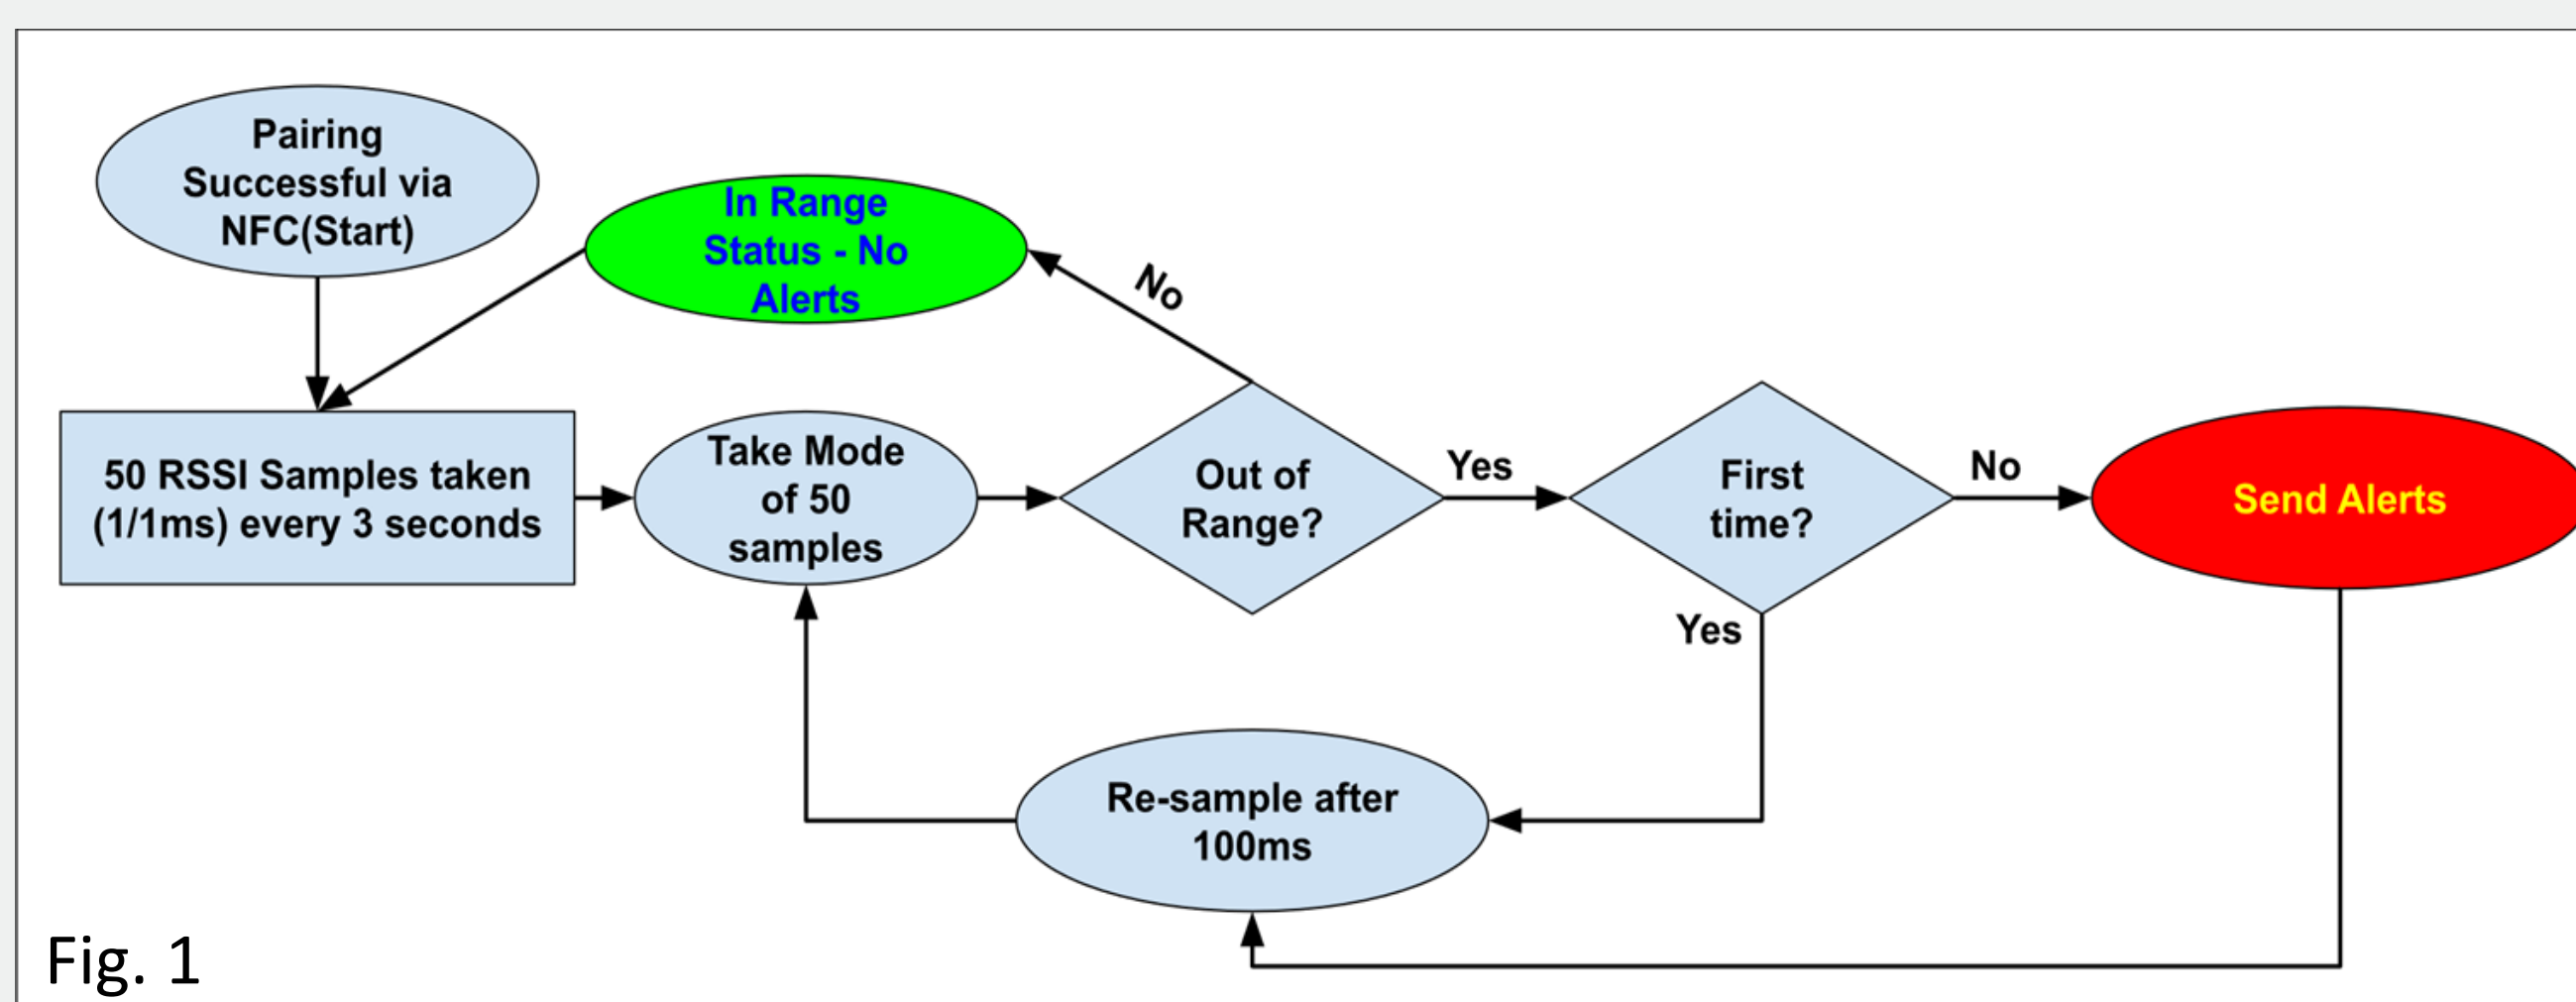

Fig. 1
- Figure 1: State Diagram for distance tracking algorithm, which is run on the iPhone app.